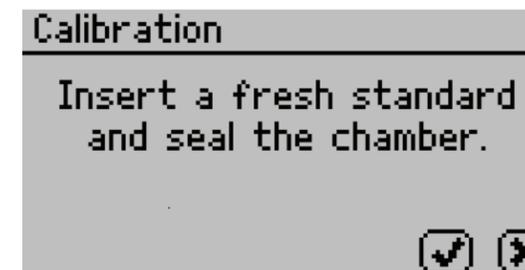

Figure 31 Calibration instruction dialog
5. A prompt will appear to insert a fresh standard and seal the chamber (Figure 31).